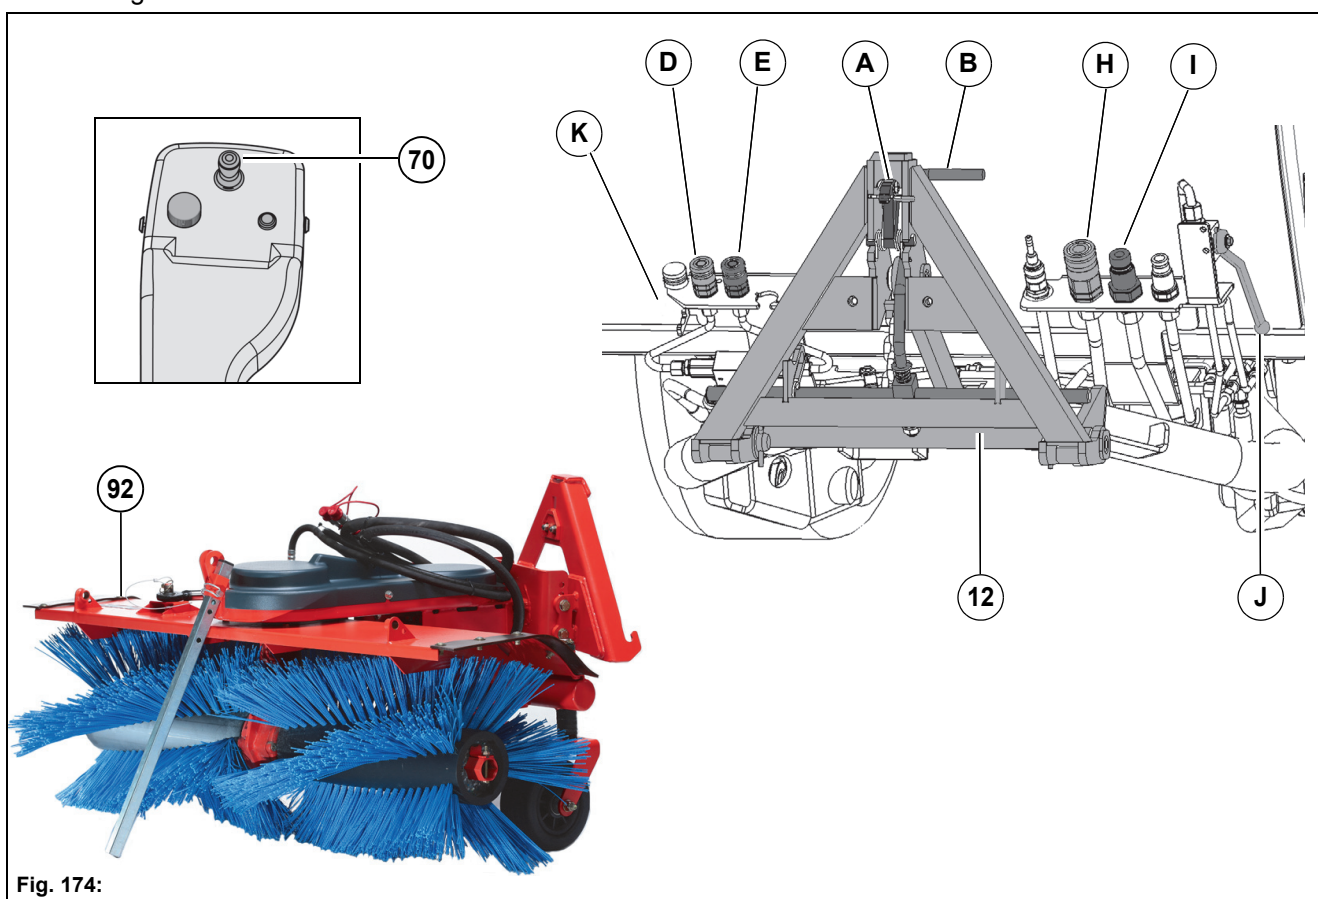

Fig. 174:
2. Unlock the locking hook **Fig. 174-A** and locking rod **Fig. 174-B** on the coupling triangle.
6. Close the valve **Fig. 174-J** for the suction mouth lift system.
- Front sweeping machine hydraulic motors – return = **Fig. 174-H**
- Front sweeping machine hydraulic motors – supply = **Fig. 174-I**
- Swivelling front sweeping machine – supply = **Fig. 174-D**
- Swivelling front sweeping machine – return = **Fig. 174-E**
- Coding plug X 63 = **Fig. 174-K**